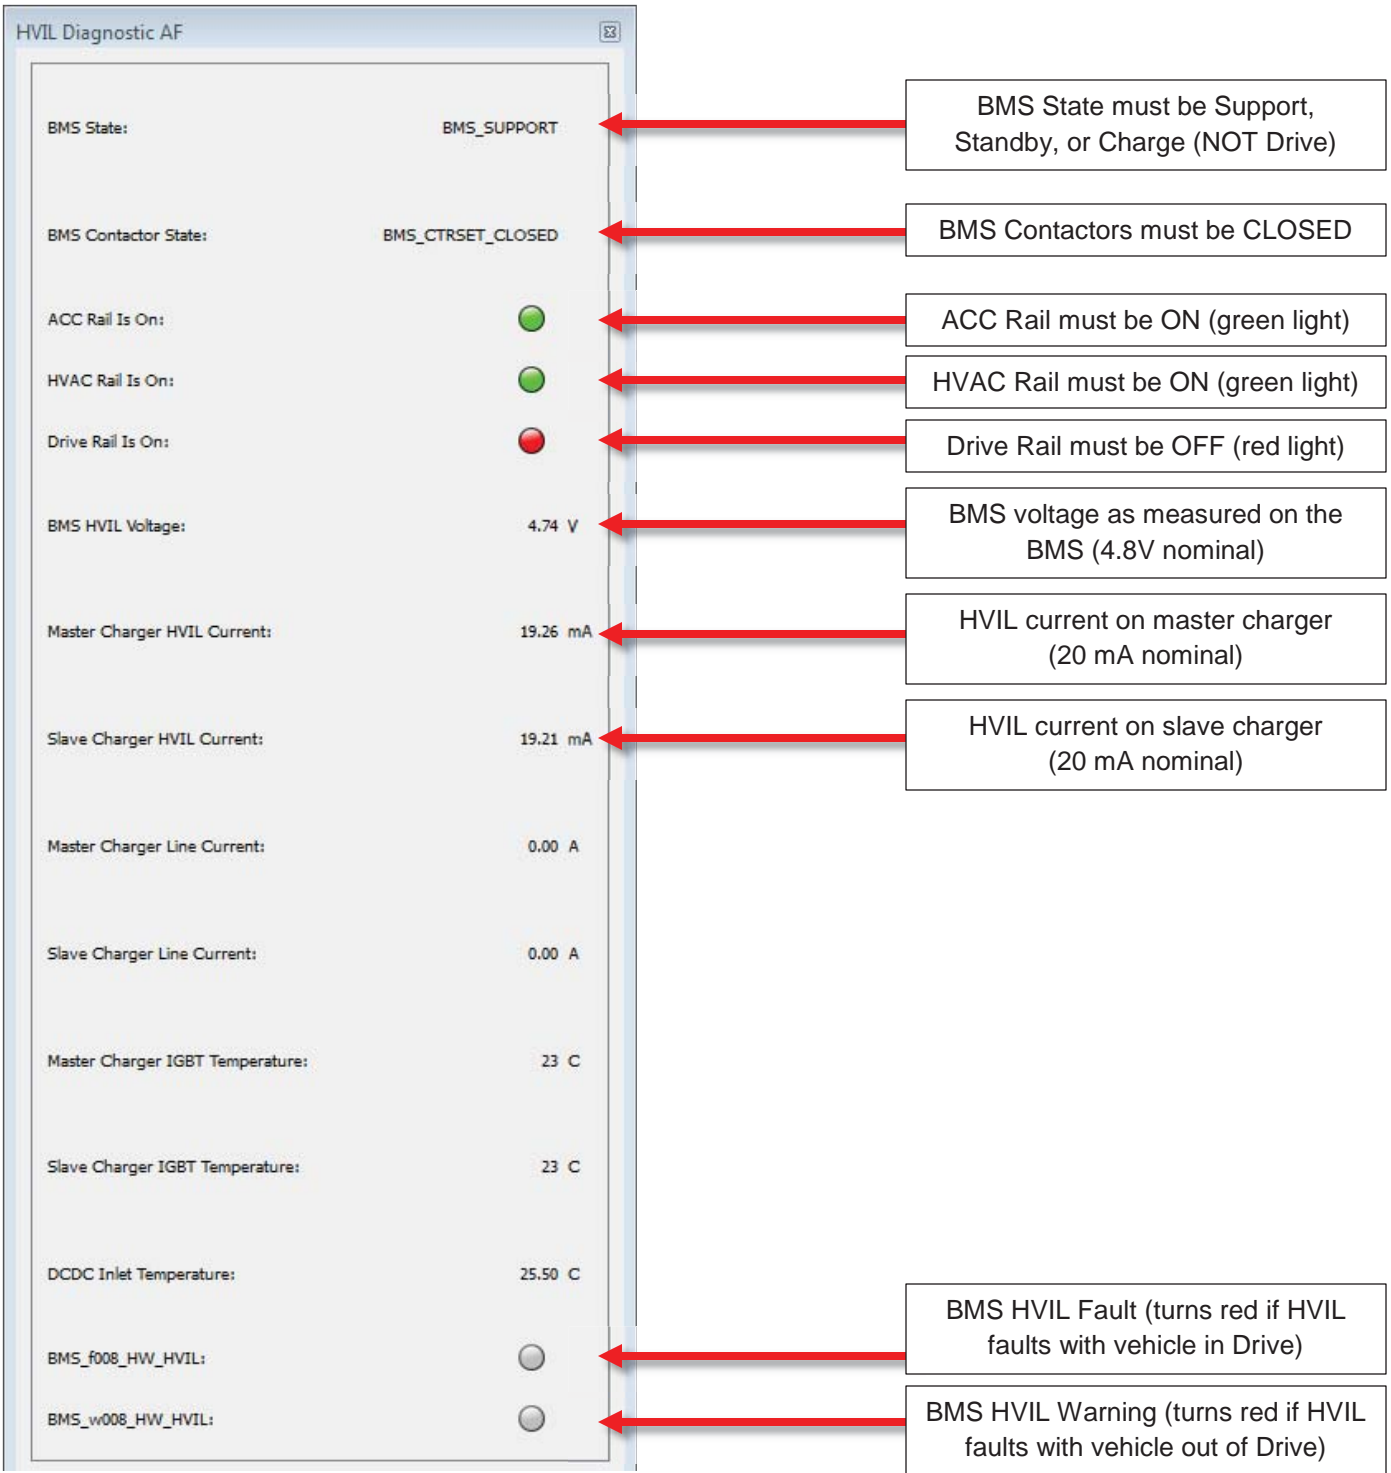

Figure 2 (TDS HVIL panel view)
6. On the TDS panel, ensure that the drive rail is off, but the BMS contactors are closed (Figure 2).